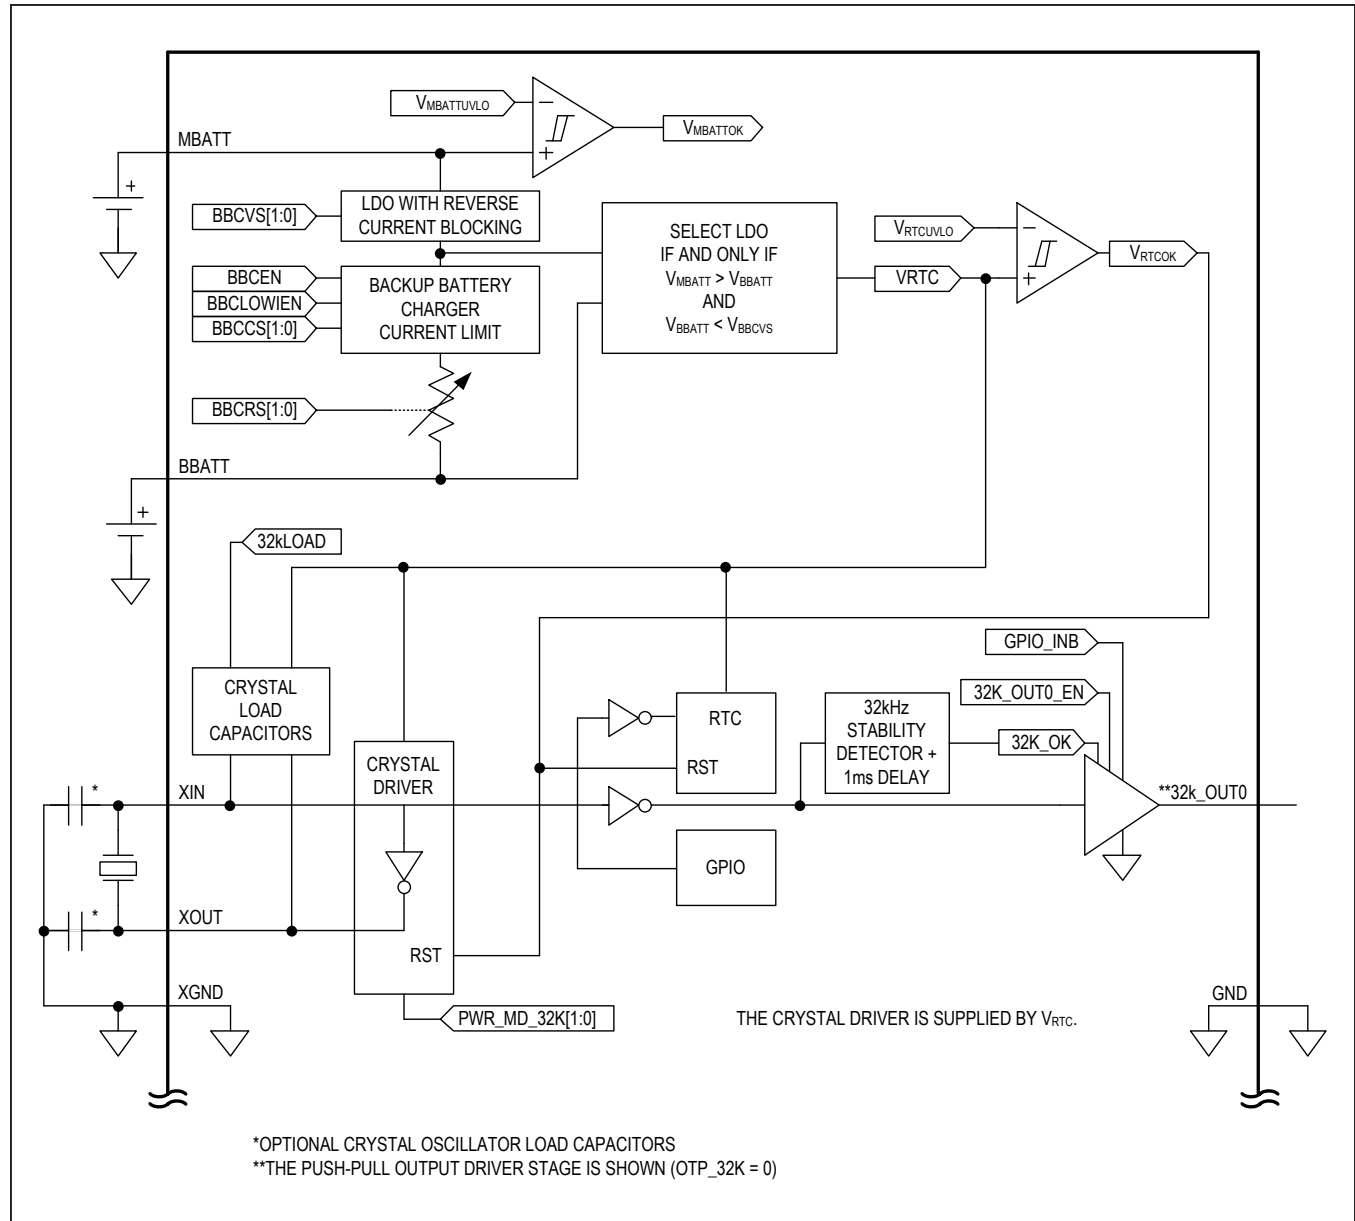

Figure 14. Backup Battery Charger, 32kHz Crystal Oscillator and RTC
The IC contains a crystal oscillator driver with internal load capacitance selectable by 32KLOAD[1:0] (Figure 14). PWR_MD_32K controls whether the crystal driver is in low-power mode or low-jitter mode. In low-power mode, the oscillator quiescent current is 1.5μA and in low-jitter mode the cycle-by-cycle jitter is 15ns. The crystal driver is supplied from the internal V_{RTC} node which is equal to V_{MBATT} if $V_{MBATT} > V_{MBATTUVLO}$.
The backup battery charger is a constant voltage (CV) and constant current (CC) style charger with a series output resistance as shown in Figure 14. The backup battery charger is enabled and disabled with BBCEN. The charge current, charger voltage, output current, and output resistance are adjustable with the BBCCTRL register. The backup-battery charger is suitable for the following types of backup cells: